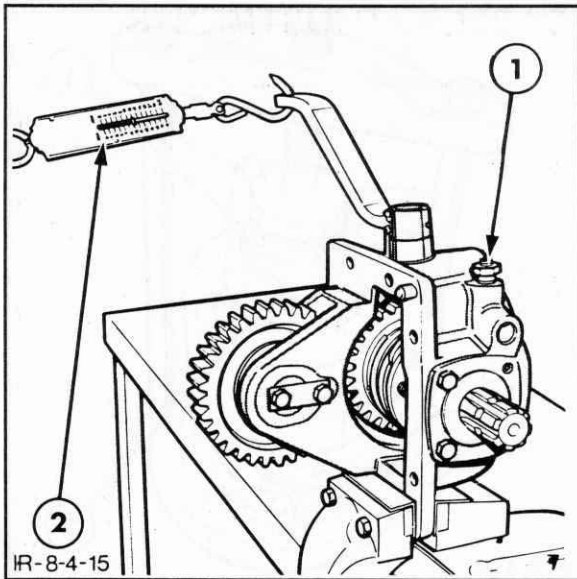

Figure 7-153
16. Install detent outer ball and spring. Coat the threads of the adjusting stud with sealant, and adjust detent pressure until a 26 lbf (12 Kgf) is required on the operating lever to activate detent, Figure 7-153.